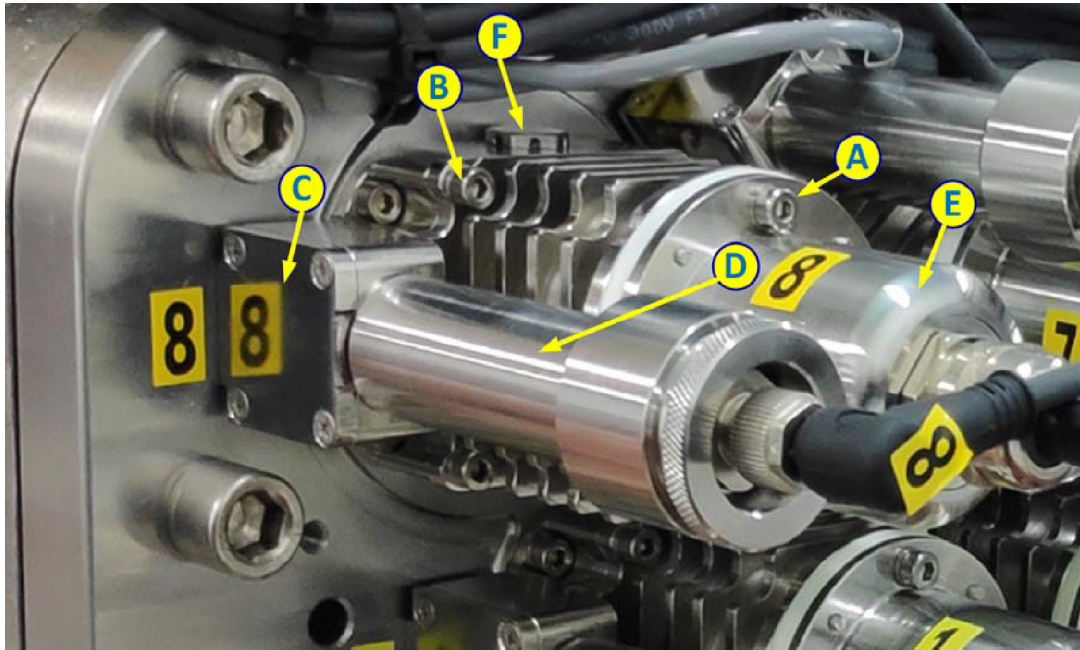

Figure 10-3: Lamp Holder/Connector & UVIS Assembly
- Step 5.** Operate the system without the lamp's breather caps (see F in Figure 10-3 , on page 116) for one hour.